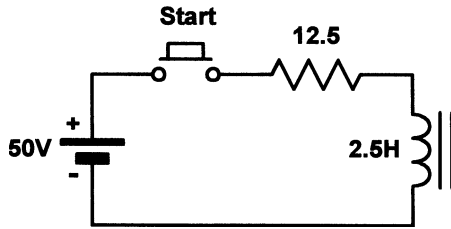

Figure A2.12
23. In Fig. A2.12 determine the current supplied to the inductor 100 ms after pressing the 'start' button. [Page 59]